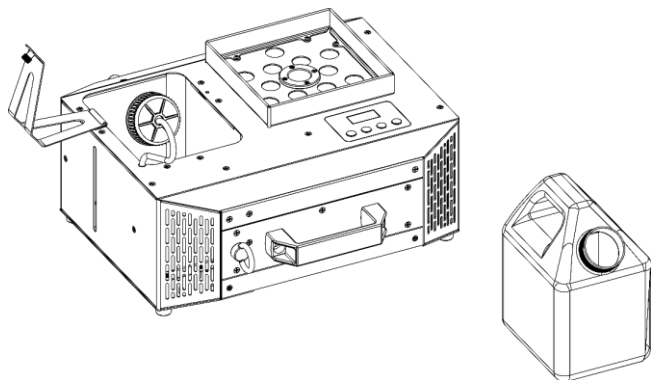

Fig. 42
- 06) Place the **fluid tank (02)** on a flat service near the device, as shown in Fig. 42.